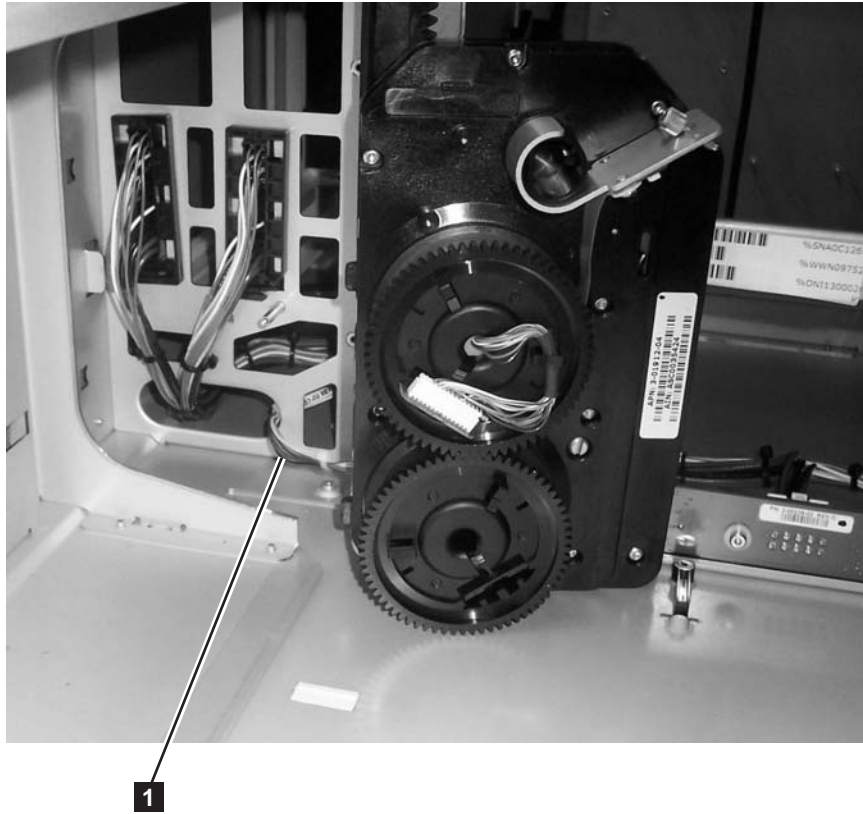

Figure 8-56. Cable Spool cable routing through enclosure wall
8. Remove the Cable Spool Assembly from the control module. Carefully route the cable (**1** in Figure 8-56 on page 8-60) disconnected from the distribution board through the holes in the enclosure to avoid damage to the cable.
1. Insert the Cable Spool Assembly into the control module. Carefully route the cable disconnected from the distribution board through the holes in the enclosure (**1** in Figure 8-56) and to the left of the screw stand-off to avoid damage to the cable.